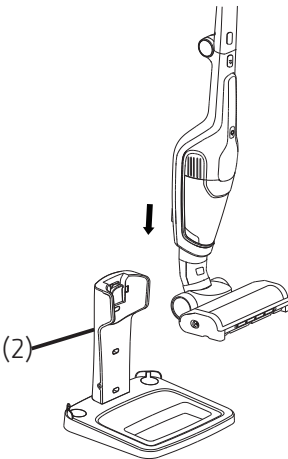
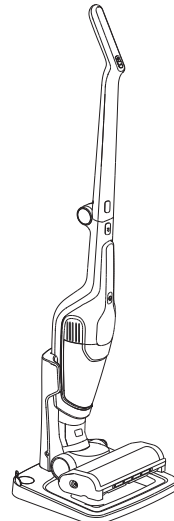

Fig. 5-2a
Fig. 5-2b
3. Lift the appliance and put it onto the charger, make the socket of body (1) cover the charger stand (2) (Fig.5-2a). At that time, the electric volume indicator turns on, and the appliance enters the charging condition, all the charging indicators will turn on for about one minute then goes off when charging is finished. (see Fig.5-2b)